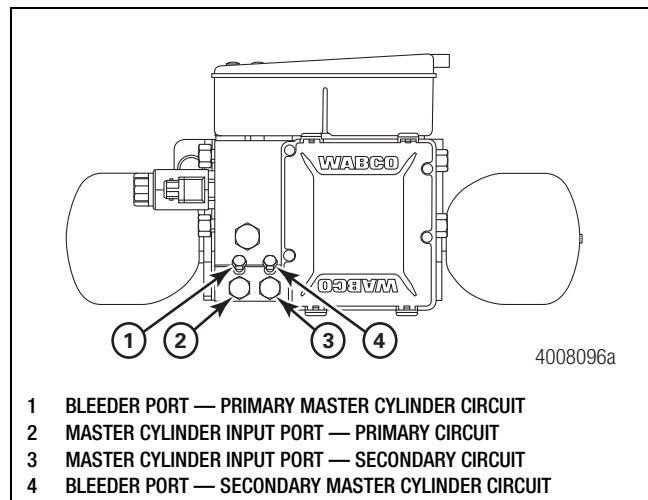

Figure 1
9. Remove the rubber caps from the two relay valve bleeder screws located on the hydraulic control unit (HCU). Figure 1.